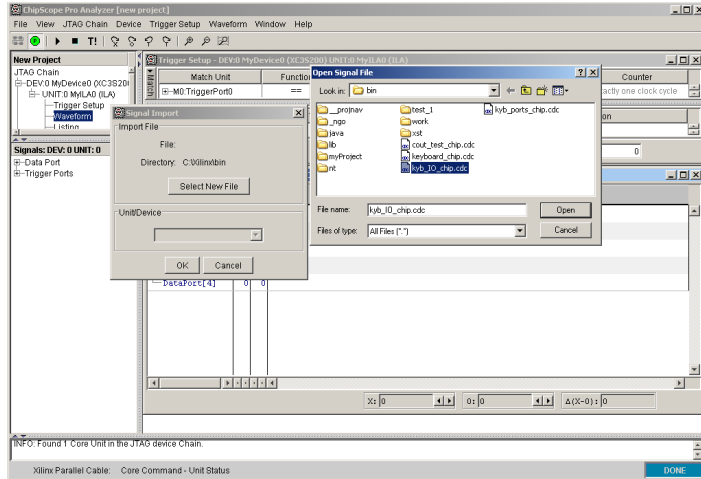
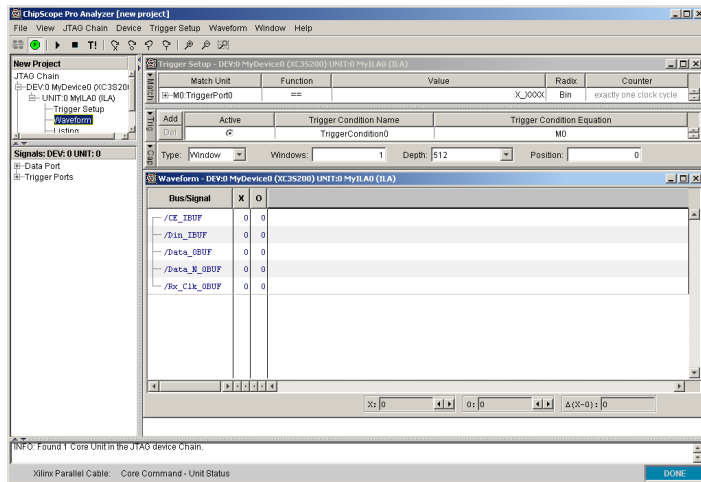

Figure 26
Figure 27
38. Select File, Import file, and click on “Select File” and select the *.cdc file you created in previous sections as shown in Figure 26. Click on “Open” and “OK”. This will assign the net names you have defined to the physical nets on the board (Figure 27).